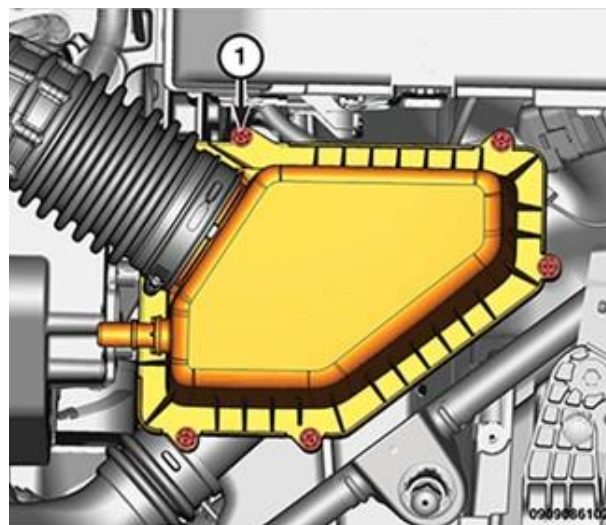

Figure 11 – Air Cleaner Housing Cover
19. Loosen the retaining screws (1) and remove the air cleaner housing cover (Figure 11).